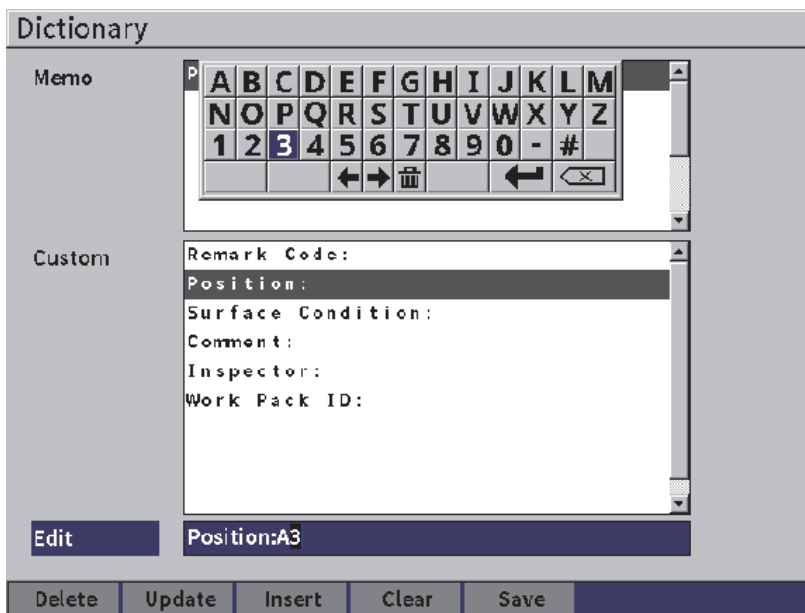

Figure 9-21 Memo Dictionary page — Editing a label
7. Enter characters (up to 32) using the virtual keypad, adjustment knob, and the Enter key (see Figure 9-21 on page 125).